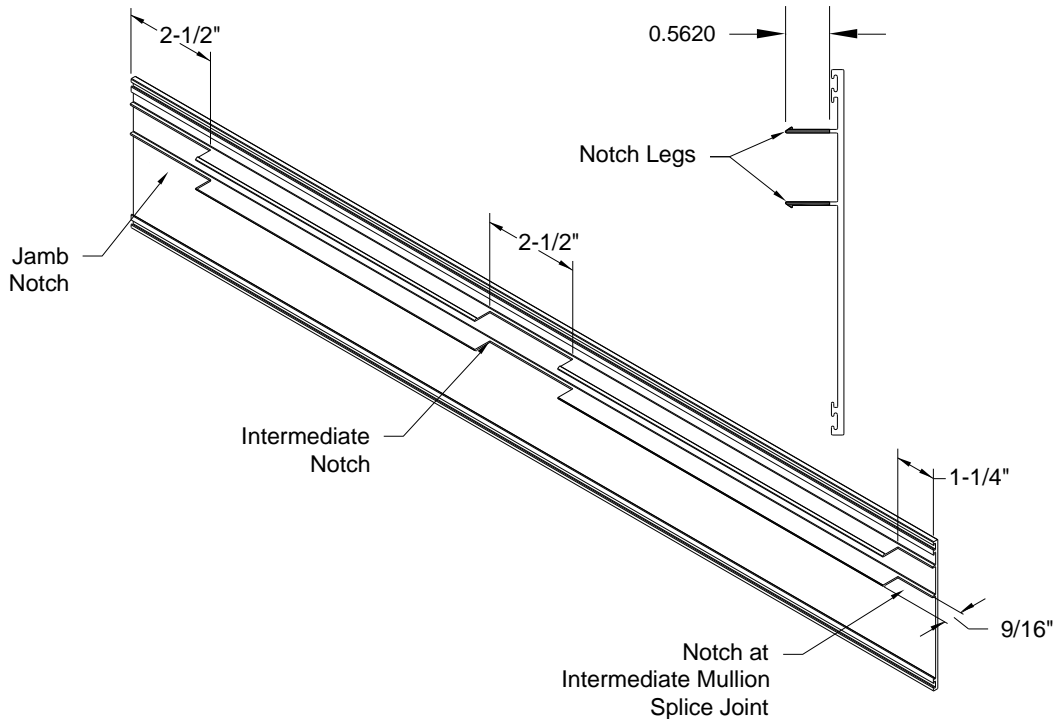
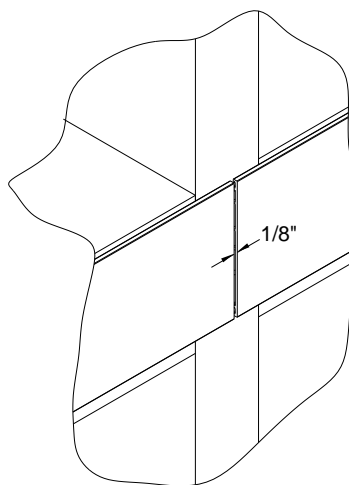

Figure 30: WW-259 Fabrication
Figure 31: WW-259 Intermediate Mullion Splice Joint
12.17 When using the optional RL-583 (WW-483) upper horizontal a WW-259 interior snap on cover will be required. The cover must be notched to clear jamb mullions and intermediate mullions. Ends of cover will be notched 2-1/2" at jambs to extend to edge of jamb. If the cover is run across intermediate vertical mullions then a 2-1/2" notch will also be fabricated at these locations. Where the cover needs to be spliced at intermediate mullions the notch will be 1-1/4" long and cover will be cut mullion centerline minus 1/16" to form a 1/8" joint. See *Figure 30* below for fabrication and *Figure 31* for butt joint.